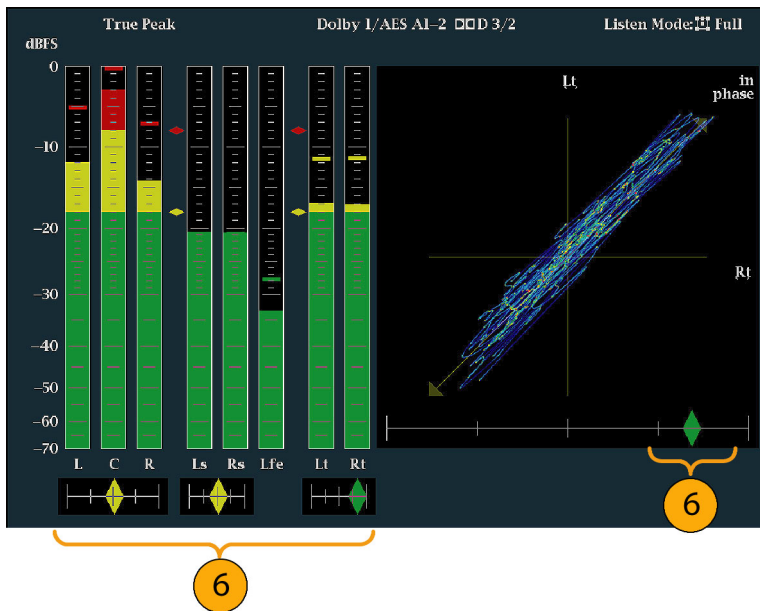

Figure 67: Checking for phase correlation
6. Check for Phase correlation of the signals, noting the following: (See Figure 67.)